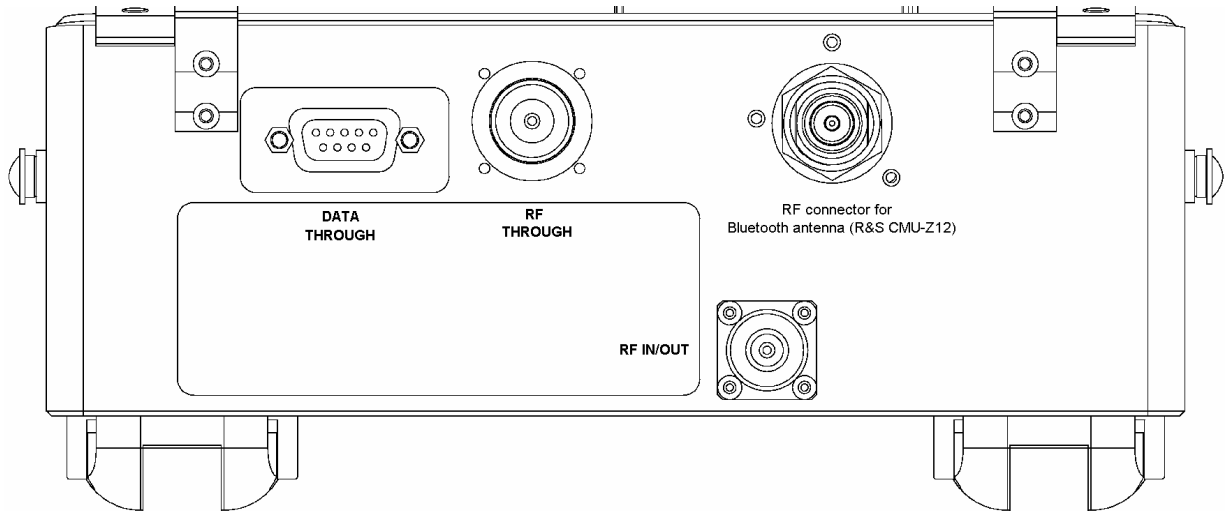

Fig. 2 R&S® CMU-Z10 rear connectors
1. Unscrew the three Phillips screws at the rear of the coupler to remove the metal plate covering the opening for the antenna connector (see Fig. 2 on p. 8).